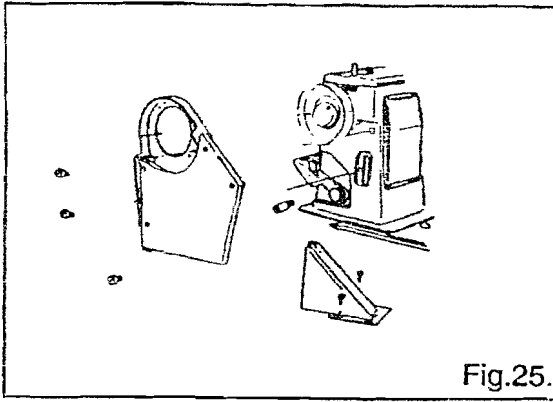

Fig.25.
21. ASSEMBLY OF BELT COVER (Fig.25)